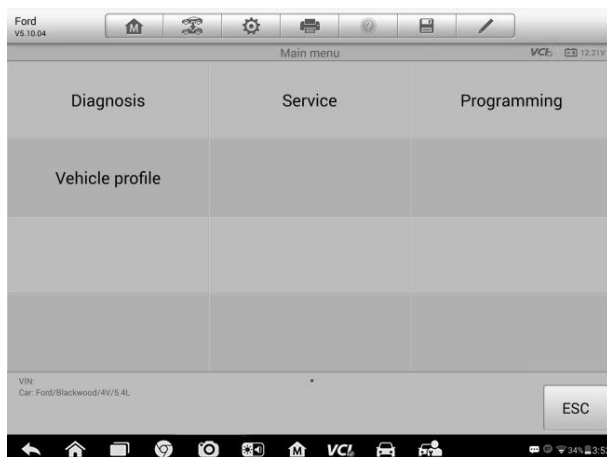

Figure 4-3 Sample Vehicle Diagnostics Screen
5. Tap **Done**. The vehicle will be identified in a few seconds, and once the matching is successful, the system will guide you to the Vehicle Diagnostics screen directly (Figure 4-3).
The Vehicle Diagnostics screen (Figure 4-3) has three main options: